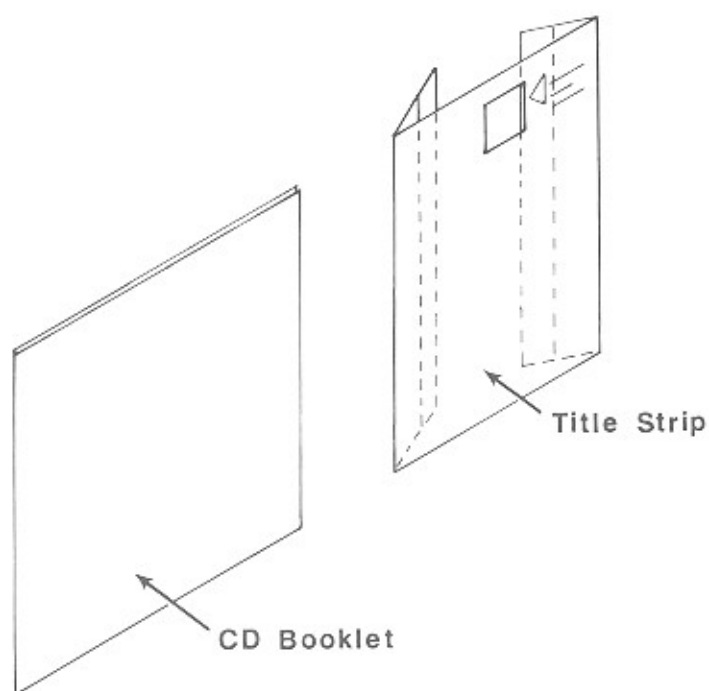

Figure 3-4. Folding The Title Strip
3. Fold the title strip along the inner most perforated line on both sides of the title strip (see *figure 3-4*).